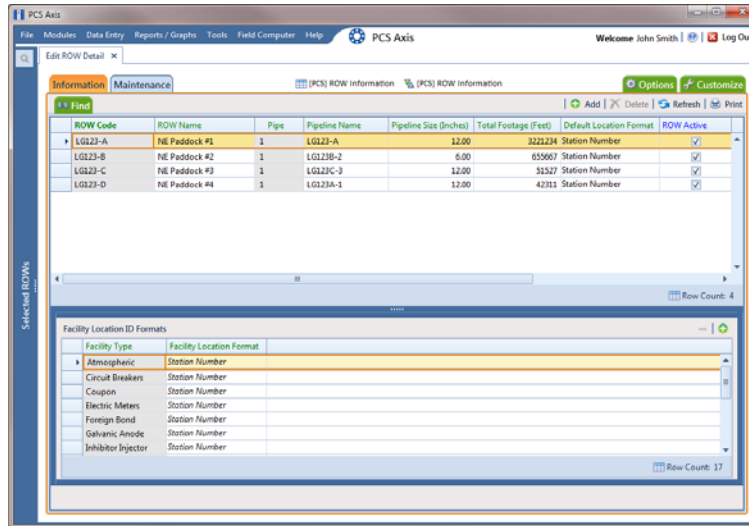

Figure 4-32. Edit ROW Detail
- 2 Click **Data Entry > Edit ROW Detail** to open the *Edit ROW Detail* window. If you want to collapse the *Selected ROWs* panel to view more of the *Edit ROW Detail* grid, click **Selected ROWs**. To expand the panel, click **Selected ROWs** again (Figure 4-32, page 157).
- 2 Click **Data Entry** > **Edit ROW Detail** to open the *Edit ROW Detail* window (Figure 4-32, page 157).
- 2 Click **Data Entry > Edit ROW Detail** to open the *Edit ROW Detail* window (Figure 4-32, page 157).